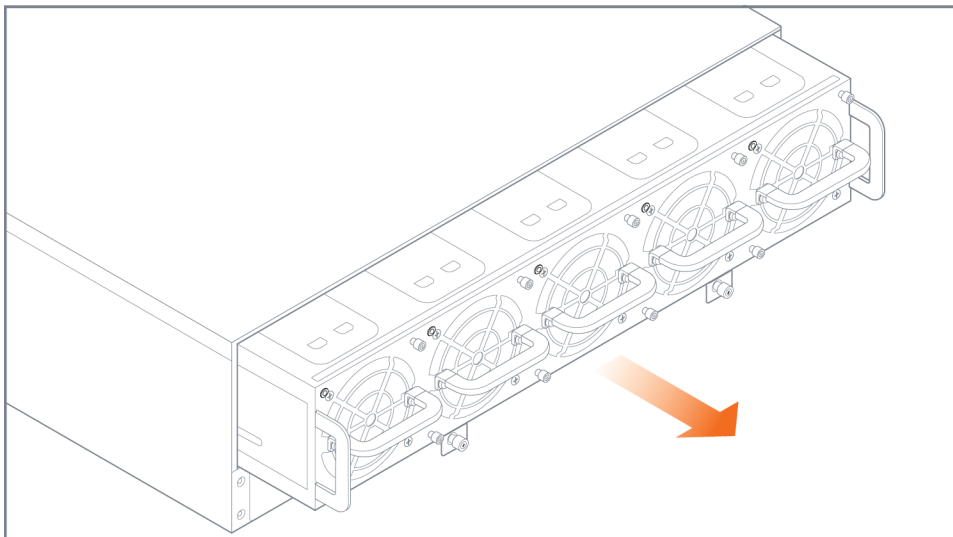

Figure 4-11: Fan Tray Removal
3. Pull the failed fan tray out of the slot and set it aside. Refer to Figure 4-11 on page 79.